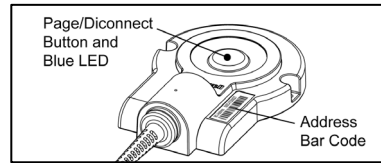

Figure 11.
2. Scan the address bar code located on the top of the access point device (see Figure 11, on page 8) to establish a communication link between the scanner and access point.
4. Scan the address bar code located on the top of the access point device (see Figure 11, on page 8) to establish a communication link between the scanner and access point.